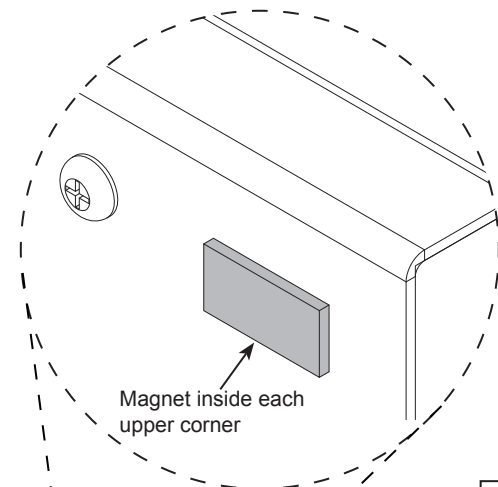

Figure 2B
2. Unscrew the (2) knobs inside the lectern behind the audience-side panel and remove. Magnets are installed at the top corners of the panel to prevent tipping. **Figure 2B.**